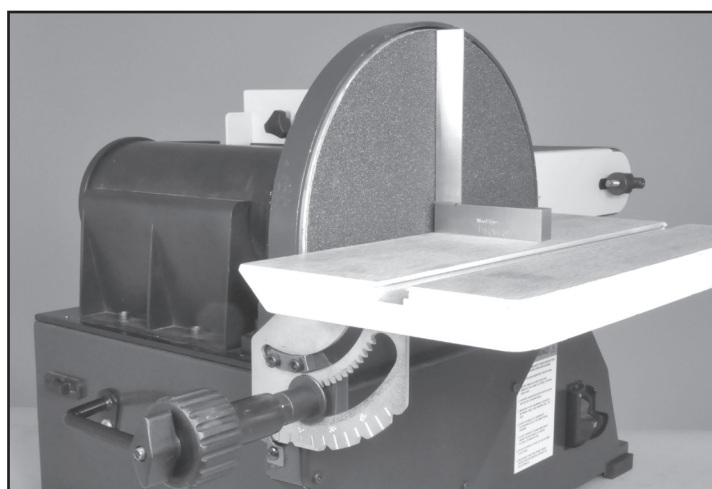

FIG. 10
1. To check the trueness of the 90° angle of the disc sanding table, place a square or other measuring device on the table with the other end against the sanding disc. FIG. 10.